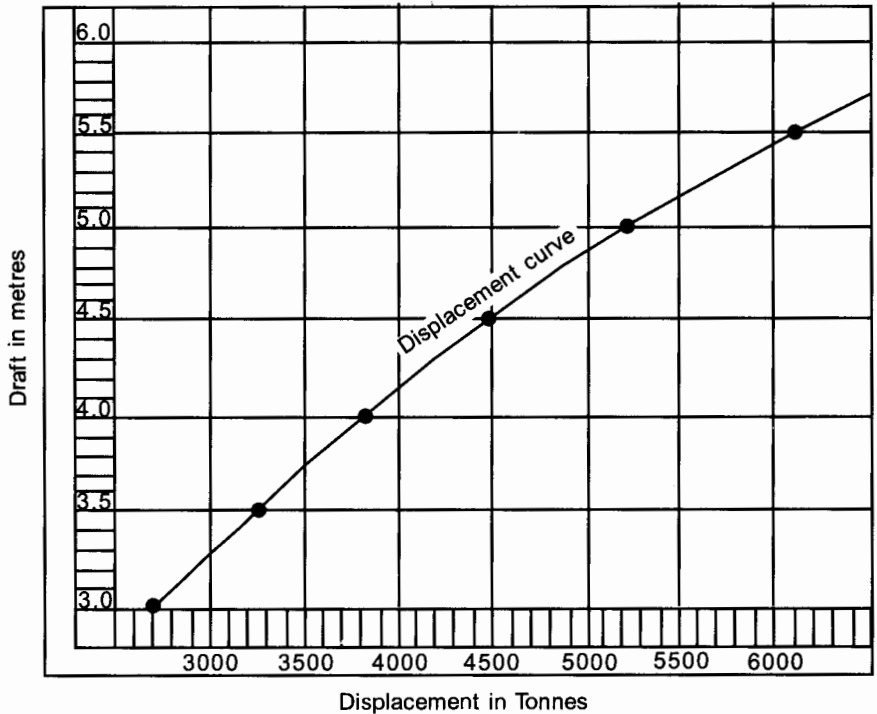

Fig. 8.2
- (a) See Figure 8.2 for the graph